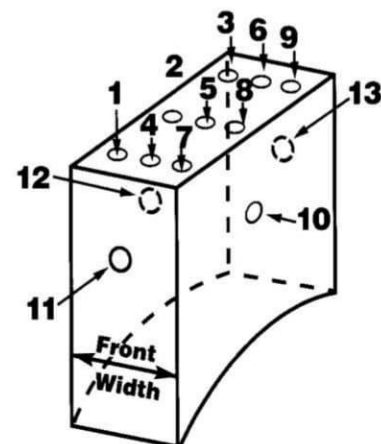

Figure 14. Typical Slip Ring Brush
- Brushes with a thickness dimension which is greater than the width: see Figure 14. This generally applies to slip ring brushes.